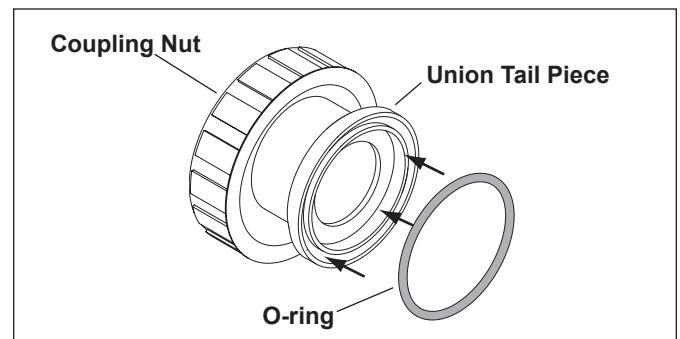

Figure 2. O-ring Placement
3. Remove the two (2) o-rings from the packaging.
4. Place the o-rings on the face of the union tail pieces, where the face of the Slide Valve union will connect to the filter bulkheads. (See Figure 2). Make sure each o-ring is properly seated into the groove of each union tail piece.